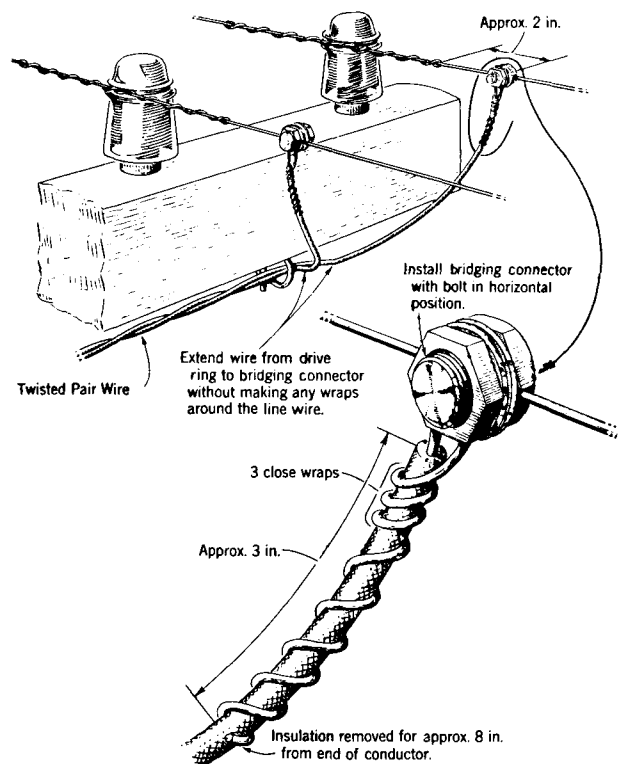

Fig. 13 — Where Line Wires Are Tied to Pin-Type Insulators
- (1) Provide a sufficient length of twisted pair wire to extend from the 101B terminal to approximately 8 inches beyond the bridging connectors.
- (2) Remove the insulation for approximately 8 inches from each bridle conductor at the open wire end.
- (3) Thoroughly clean the conductors for approximately 2 inches beyond the end of the insulation.
- (4) Extend bridle wire directly from last drive ring to bridging connectors without making any wraps around the line wire.
- (5) Connect each conductor at the open wire by means of a bridging connector installed with the bolt in a horizontal position and extend the excess length of bare conductor back on the insulated portion in spiral wraps as illustrated in Fig. 13 and 14.